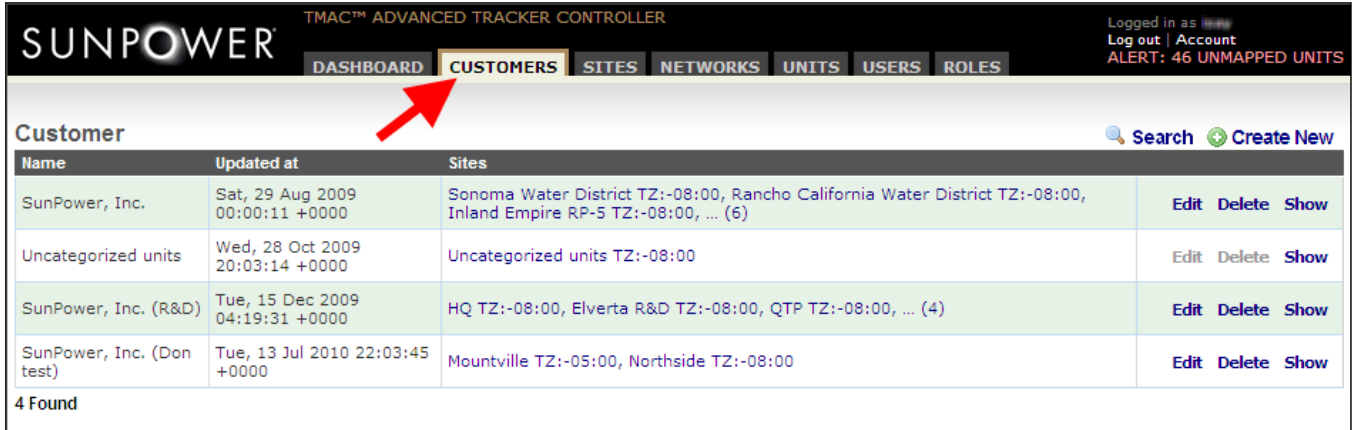

Fig. B12
1. Click the **CUSTOMERS** tab to open the Customer page (Fig. B12).